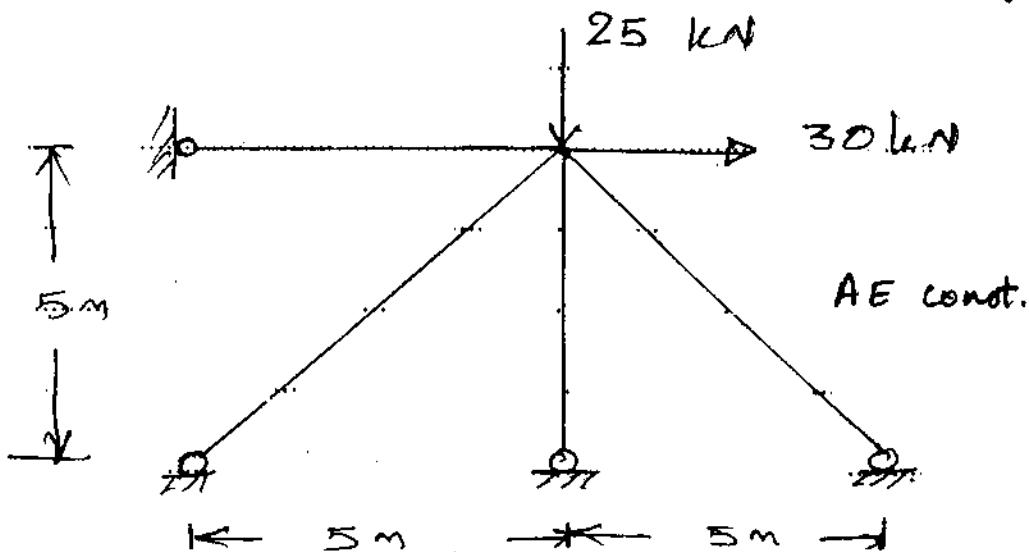

Fig. 4
12. Analyse the pin jointed frame shown in Figure 4 by stiffness method and find forces in the members of the truss.